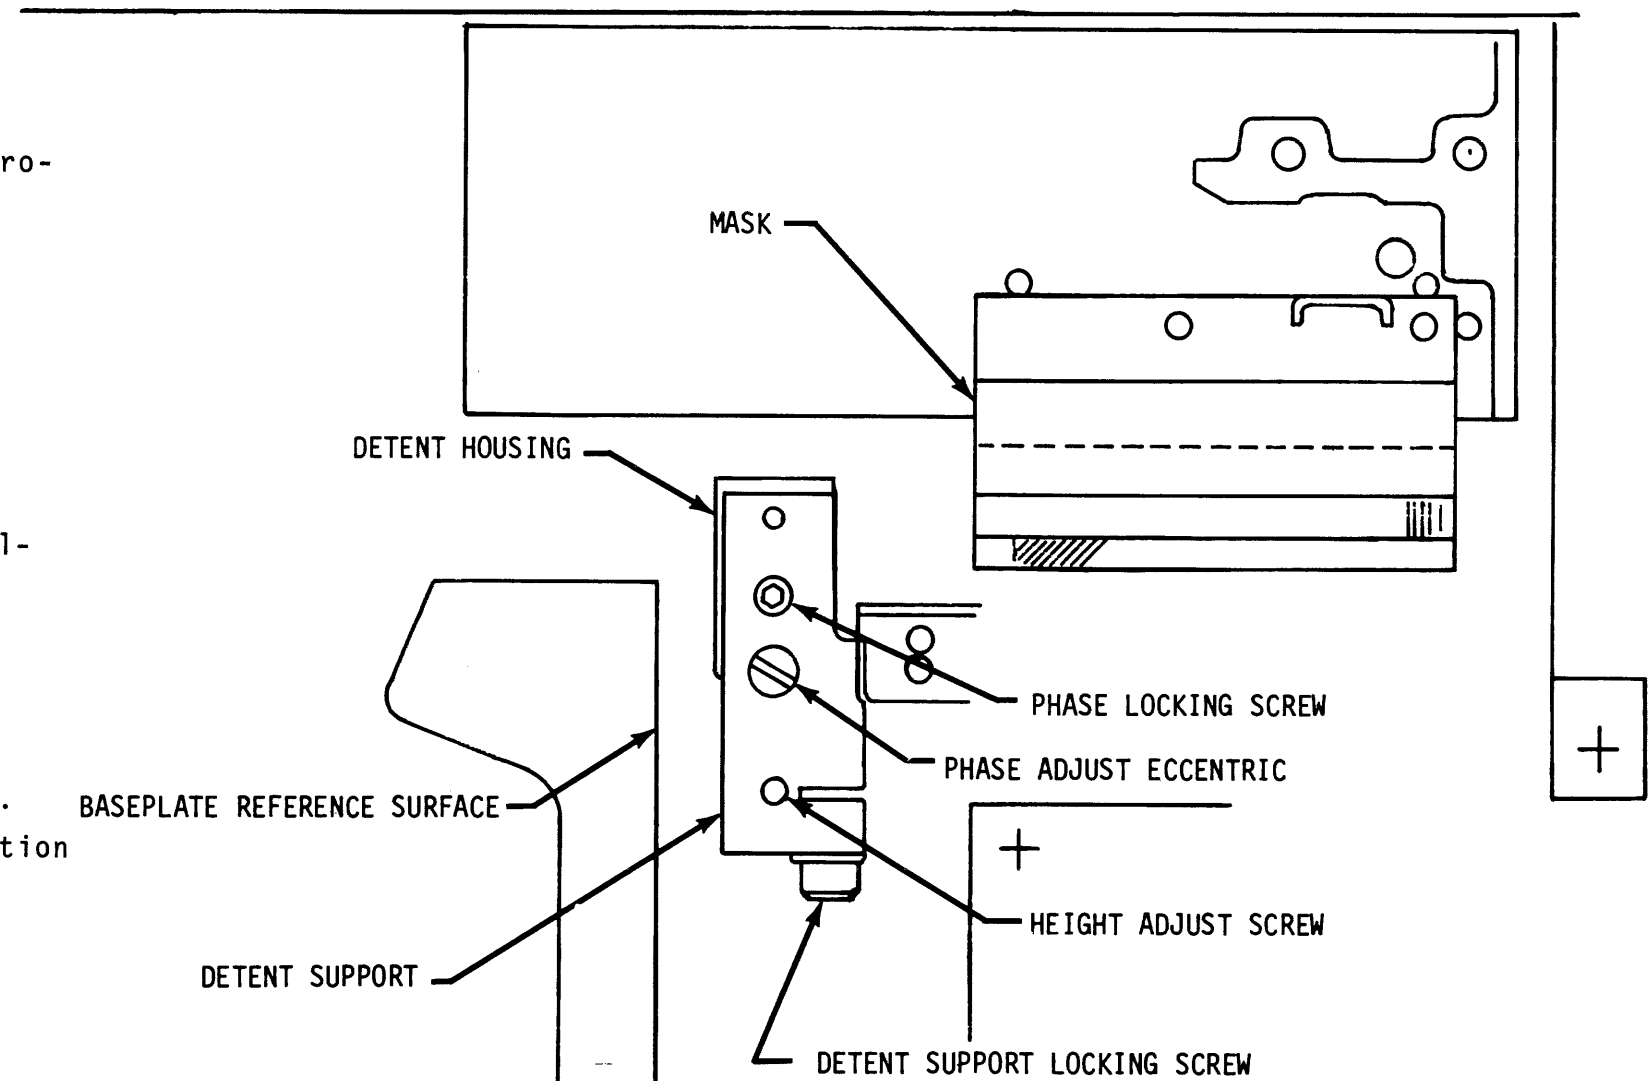

Figure 7-31. Optical Detent System (Viewed from Top)
4. Loosen Allen screw on back of detent assembly. (See Figure 7-31.)
1. Install detent assembly on its mounting post. (See Figures 7-31 and 7-32.)
a. Detent Alignment--Mechanical (Refer to Figures 7-31 and 7-32.)